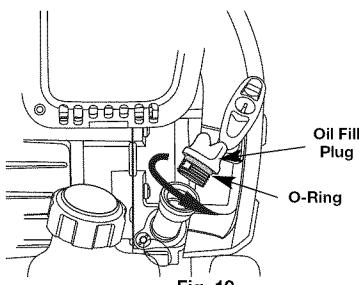

Fig. 19
- Remove the oil fill plug from the crankcase (Fig. 19).